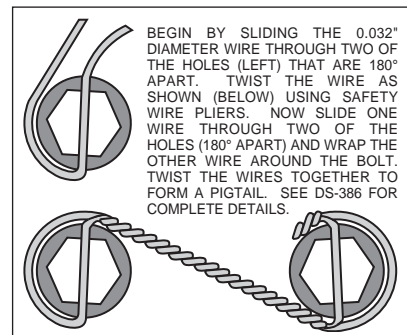

Figure 3. Safety Wire Diagram
- Apply red *Loctite*® 271 to bolt threads (2 and 3) before assembly of the caliper bracket (1) to backing plate face of spindle. Insert the two thicker mounting bolts (3) and the small mounting bolt (2) through the caliper mounting bracket (1). Position the caliper mounting bracket (1) onto the spindle, slipping each of the three mounting bolts (2 and 3) into the threaded spindle holes, finger tighten. Torque two bolts (3) to 77 ft-lb. Torque bolt (2) to 180 in-lb. **NOTE:** Be sure the heads of the caliper bracket (1) insert nuts are facing outward toward the wheel.
- Install five new wheel studs (4) into the hub (5). Torque to 77 ft-lb. **NOTE:** There are two five lug patterns in the hub (5 x 4.00 and 5 x 4.50). Make sure of the correct hole pattern for the correct wheel application before installing studs into hub.
- Pack the large inner bearing cone (6) with high temperature disc brake bearing grease (available from your local auto parts store) and install into the backside of the hub (5).
- Install the grease seal (7) by pressing into the backside of the hub (5).
- Attach rotor adapter (8) to rotor (9) using six bolts (10). Torque bolts (10) to 180 in-lb. Safety wire bolts (10) using standard 0.032 inch diameter stainless steel safety wire as shown in Figure 3. Please refer to Wilwood's data sheet DS-386 (available at www.wilwood.com/pdf/ds386.pdf) for complete safety wire installation instructions. **NOTE:** The flat side of the rotor (9) lugs face toward the rotor adapter (8) with the dished side of the rotor adapter (8) facing away from the rotor (9).